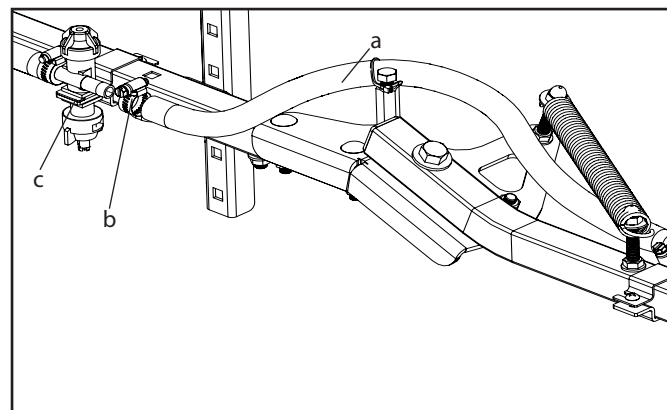

Figure 8: Spray hose installation
8. Slide hose clamps (b) over the hoses on the boom wings. Connect the boom wing hoses (a) to the black nozzle body hose barbs (c) on the center boom section. Be sure that the boom wing can open and close with no pinching or stretching of the hose. Then position the hose clamp (b) directly over the barb and tighten (Figure 8).